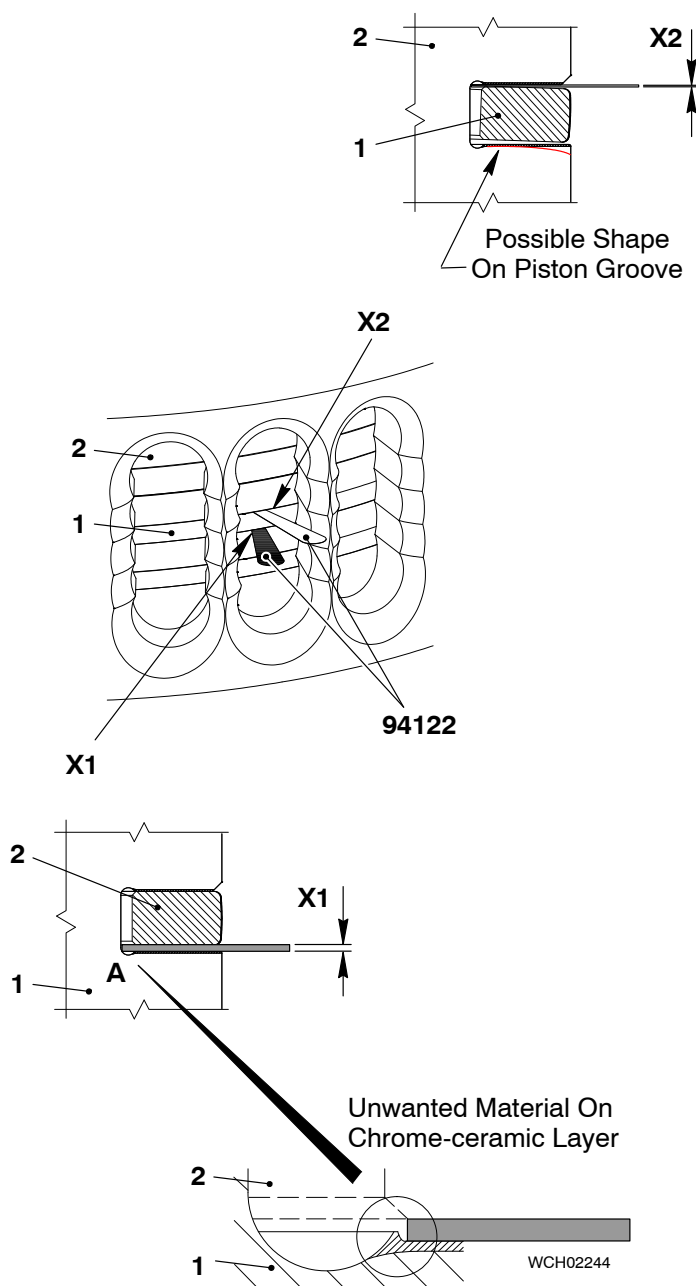

Fig. 3
- 1) Use the turning gear to move the piston (2, Fig. 3) down.
- 4) Do step 2) and step 3) at between two and four different locations around the piston (2).